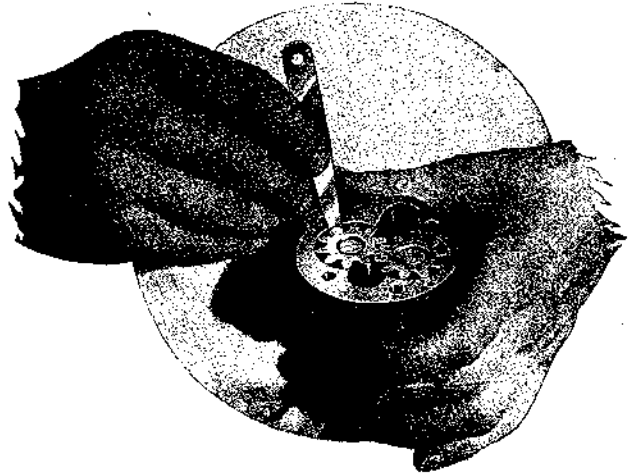

Fig. AAA.3.
1. Measure the diametrical clearance between the teeth of the gears and the pump body (see Fig. AAA.3). This should not be more than .006 in. (.15 mm.).